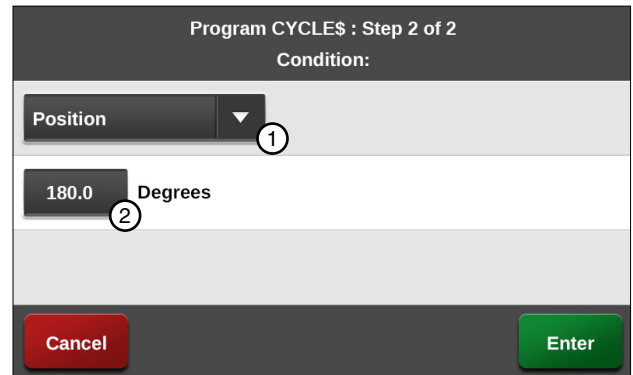

Figure 139-2 1. Position Command 2. Degrees
7. Program the position condition for this step. Refer to Figure 139-2.